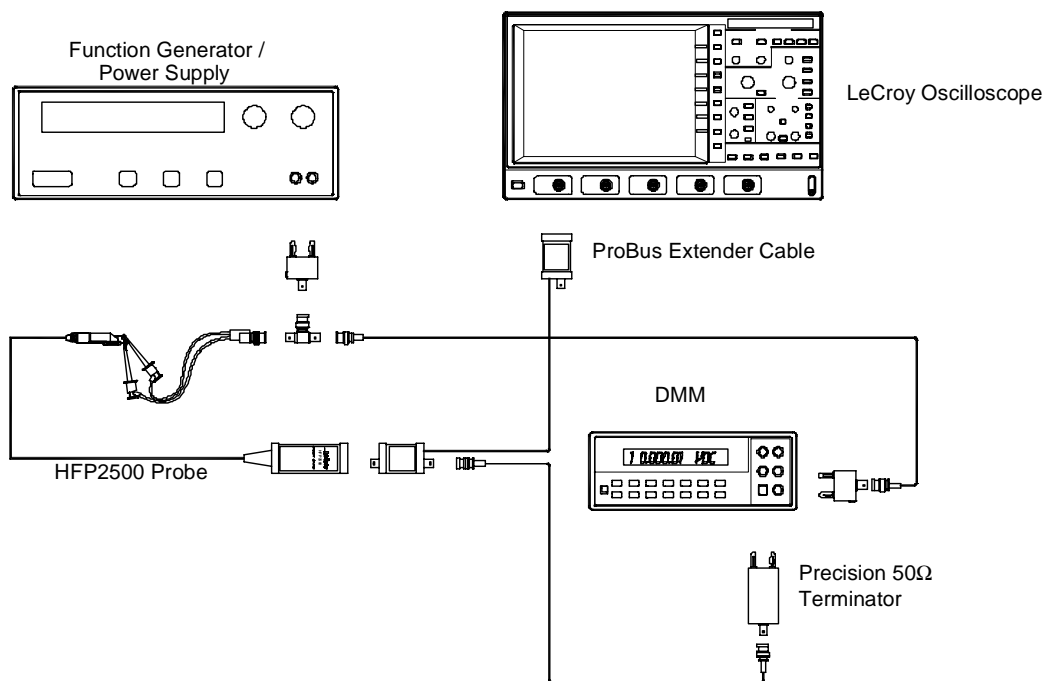

Figure 7-2. Offset and LF Attenuation Accuracy Test Setup
1. Connect the BNC end of the BNC to mini-grabber cable to a female end of the BNC tee adapter and connect a female BNC to dual banana plug adapter to the male end of the BNC tee. (Refer to figure 7-2)